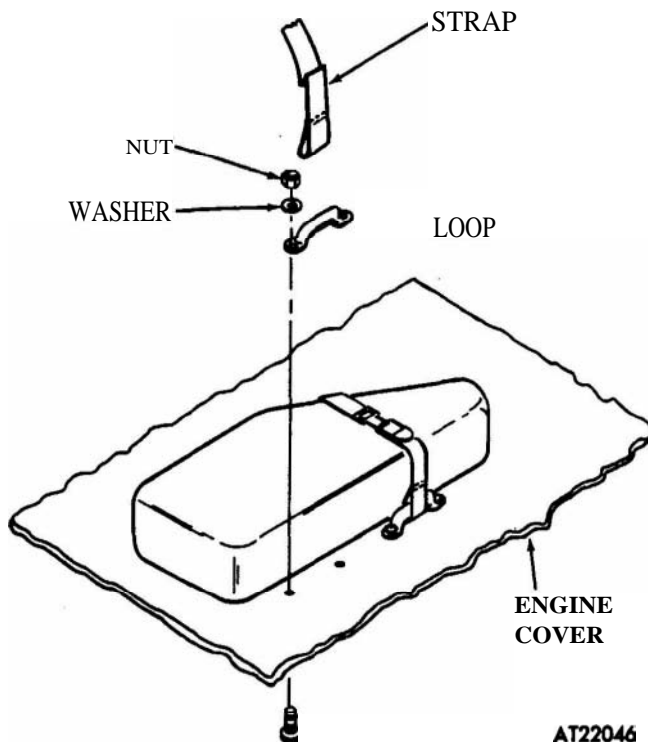

Figure 3-33. Spare barrel storage bag straps, installation.
(3) Drill eight holes $\frac{7}{32}$ of an inch.
(4) Slide straps (fig 3-33) through footman loops and secure footman loops to engine cover with screws, washers, and nuts.
a. *Removal.* Disconnect footman loops (fig 3-33) from engine cover by removing screws, washers, and nuts. Slide straps off footman loops.